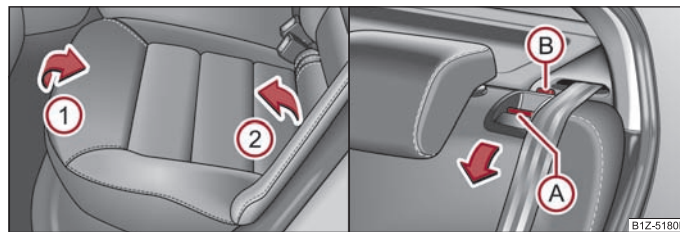

Fig. 50 Fold the seat cushion forwards/unlock the seat backrest
- Pull up the seat cushion in direction of arrow (1) and fold forwards in direction of arrow (2) ⇒ fig. 50.
- Press the unlocking knob (A) and fold the seat backrest forwards.
- Make sure that the red pin (B) is covered ⇒ page 54, fig. 50.